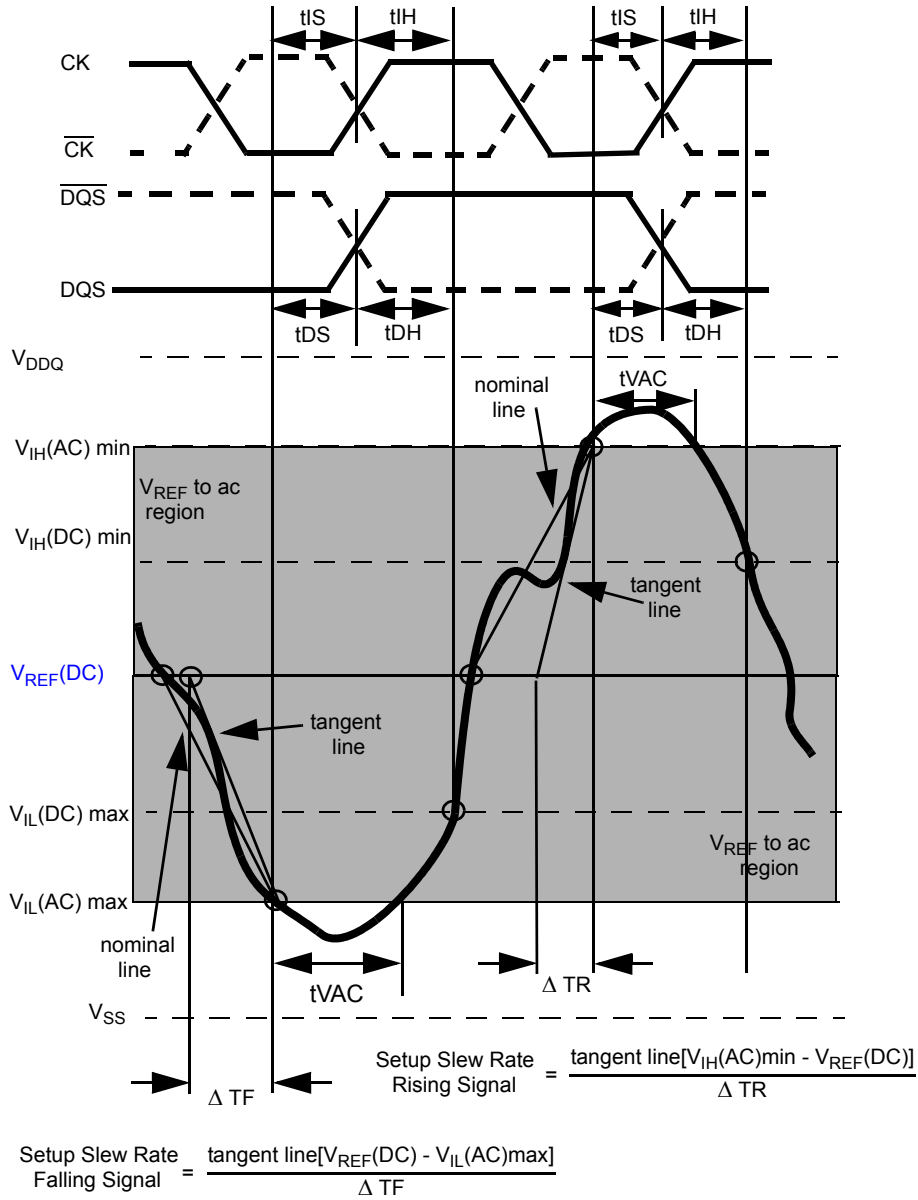

Figure 24. Illustration of tangent line for setup time  $t_{DS}$  (for DQ with respect to strobe) and  $t_{IS}$  (for ADD/CMD with respect to clock)
Example: tIS (total setup time) = tIS(base) + ΔtIS Setup (tIS) nominal slew rate for a rising signal is defined as the slew rate between the last crossing of VREF(DC) and the first crossing of VIH(AC)min. Setup (tIS) nominal slew rate for a falling signal is defined as the slew rate between the last crossing of VREF(DC) and the first crossing of VIL(AC)max. If the actual signal is always earlier than the nominal slew rate line between shaded 'VREF(DC) to ac region', use nominal slew rate for derating value (see Figure 22). If the actual signal is later than the nominal slew rate line anywhere between shaded 'VREF(DC) to ac region', the slew rate of a tangent line to the actual signal from the ac level to dc level is used for derating value (see Figure 24).